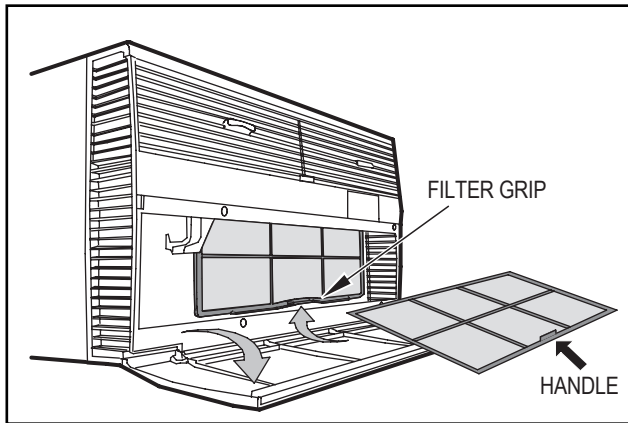

Figure C.7.2
STEP 1. Swing the door open and remove the filter by grasping the filter holder and pushing the filter holder upward and outward. (See Figure C.7.2)